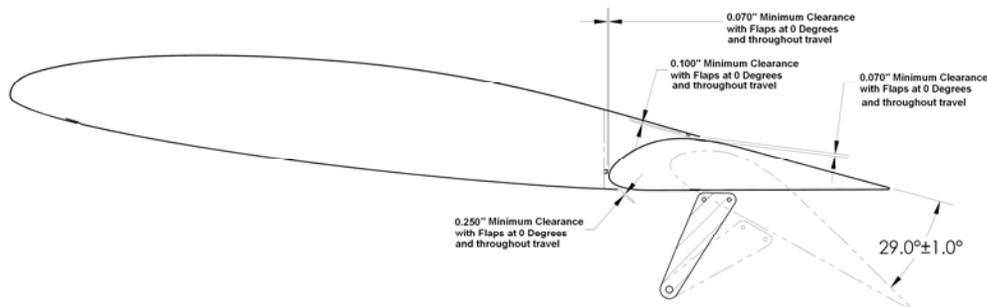

Figure 27-82 Clearances for the Flap
5. Place the flap in the fully deployed position. With flap fully deployed, record the attitude angle of flap at the same position on flap surface. Subtract the first reading from the second reading and record. The recorded flap deflection must fall within the range of $29^\circ \pm 1.00^\circ$ as shown in Figure 27-82.
9. If the measurements violate the asymmetry specification, contact Liberty Aerospace, Inc. Customer Service before making any adjustments. If adjustments are needed and Customer Service has directed the adjustments be made, adjustment of the port and / or starboard flap may be achieved by loosening some or all twelve (12) bolt assemblies (adjacent to the lower skin of the wing or flap) associated with the flap pivot arms.
13. Verify that the flap, as rigged, does not violate the minimum clearances as shown in Figure 27-82.